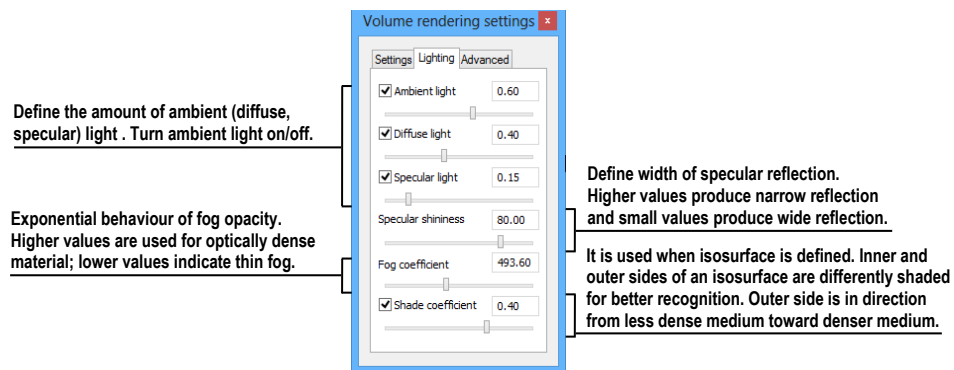

Figure 313 – Volume rendering settings, the second tab
- lighting settings used in volume rendering on the second tab (see Figure 313)